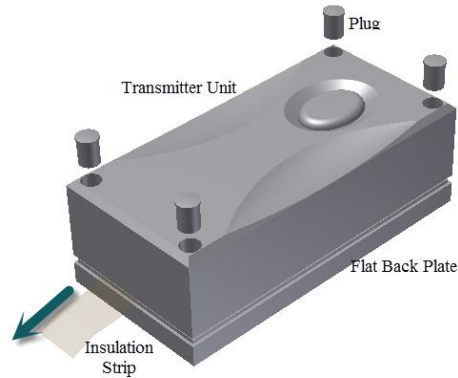

Figure 7
1. Take the transmitter unit with the pre-assembled flat back plate and pull the insulation strip out of the unit to activate the transmitter battery (figure 7).